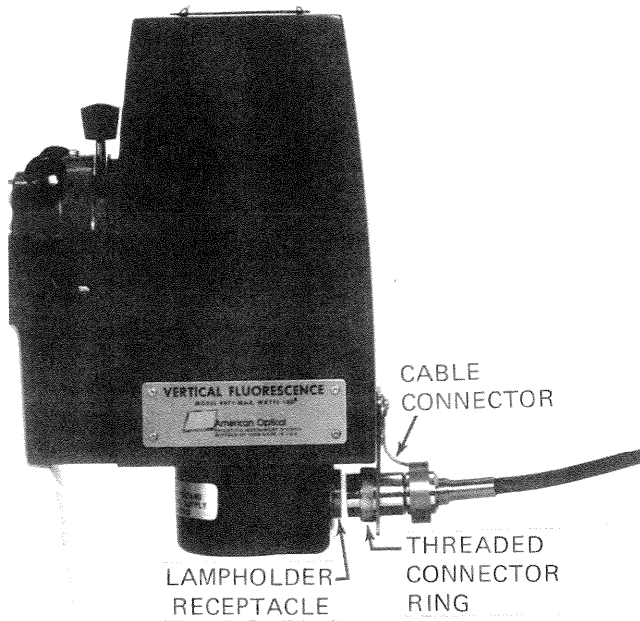

Figure 9. Attaching Lamp Cord
6. Position lampholder receptacle opposite cable connector and tighten lampholder retaining knob (Figure 9).
7. Insert cable connector into lampholder receptacle and tighten threaded connector ring finger tight (Figure 9).
4. Place the assembled #2071 Vertical Illuminator module on your Series One-Ten or One-Twenty Microscope in place of the binocular or trinocular body. Make sure the assembled unit is seated firmly, and then tighten the locking screw at the top of the microscope arm (Figure 9). Tighten set screws until they touch microscope arm (Figure 6).